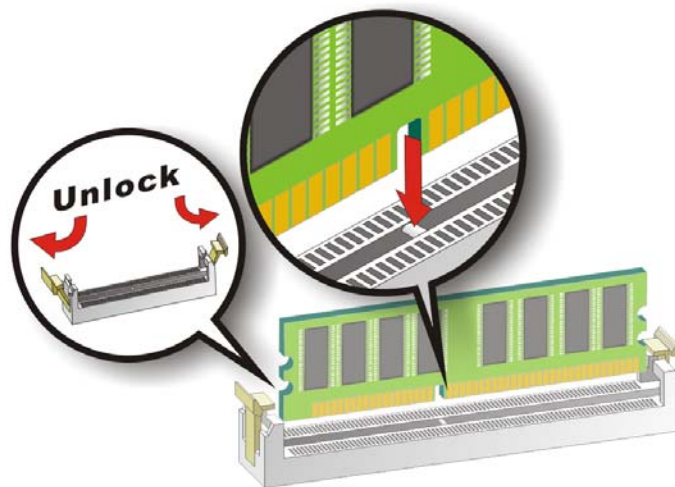

Figure 5-6: Installing the DIMM Module
Step 1: Make sure the two handles of the DIMM socket are in the "open" position, leaning outward (**Figure 5-6**).